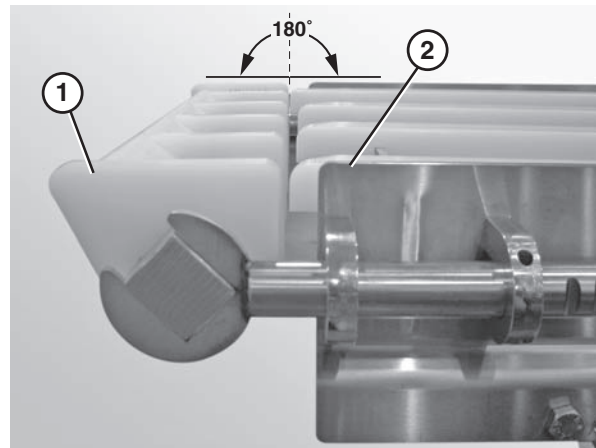

Figure 25
- Ensure that the nose bar pucks (Figure 25, item 1) are in line with the conveyor frame (Figure 25, item 2).